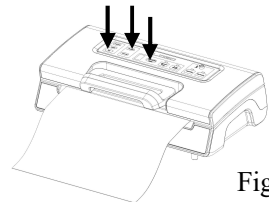

Fig.3
6. Then press VAC & SEAL button; The unit starts to vacuum and will seal the bag automatically - Fig 3